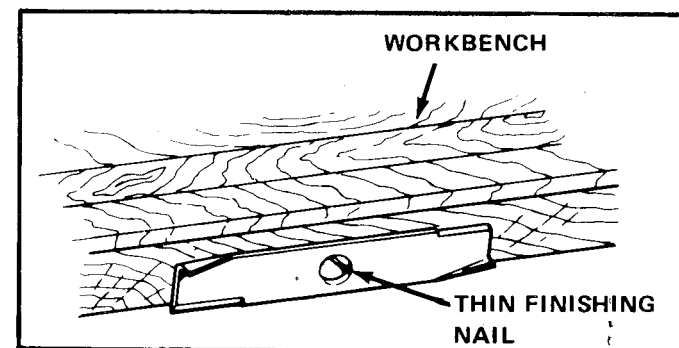

Figure 7. Balance Blade
5. Balance the blade as shown in figure 7. Center the blade's center hole on a nail lubricated with a drop of oil. A balanced blade will remain level.